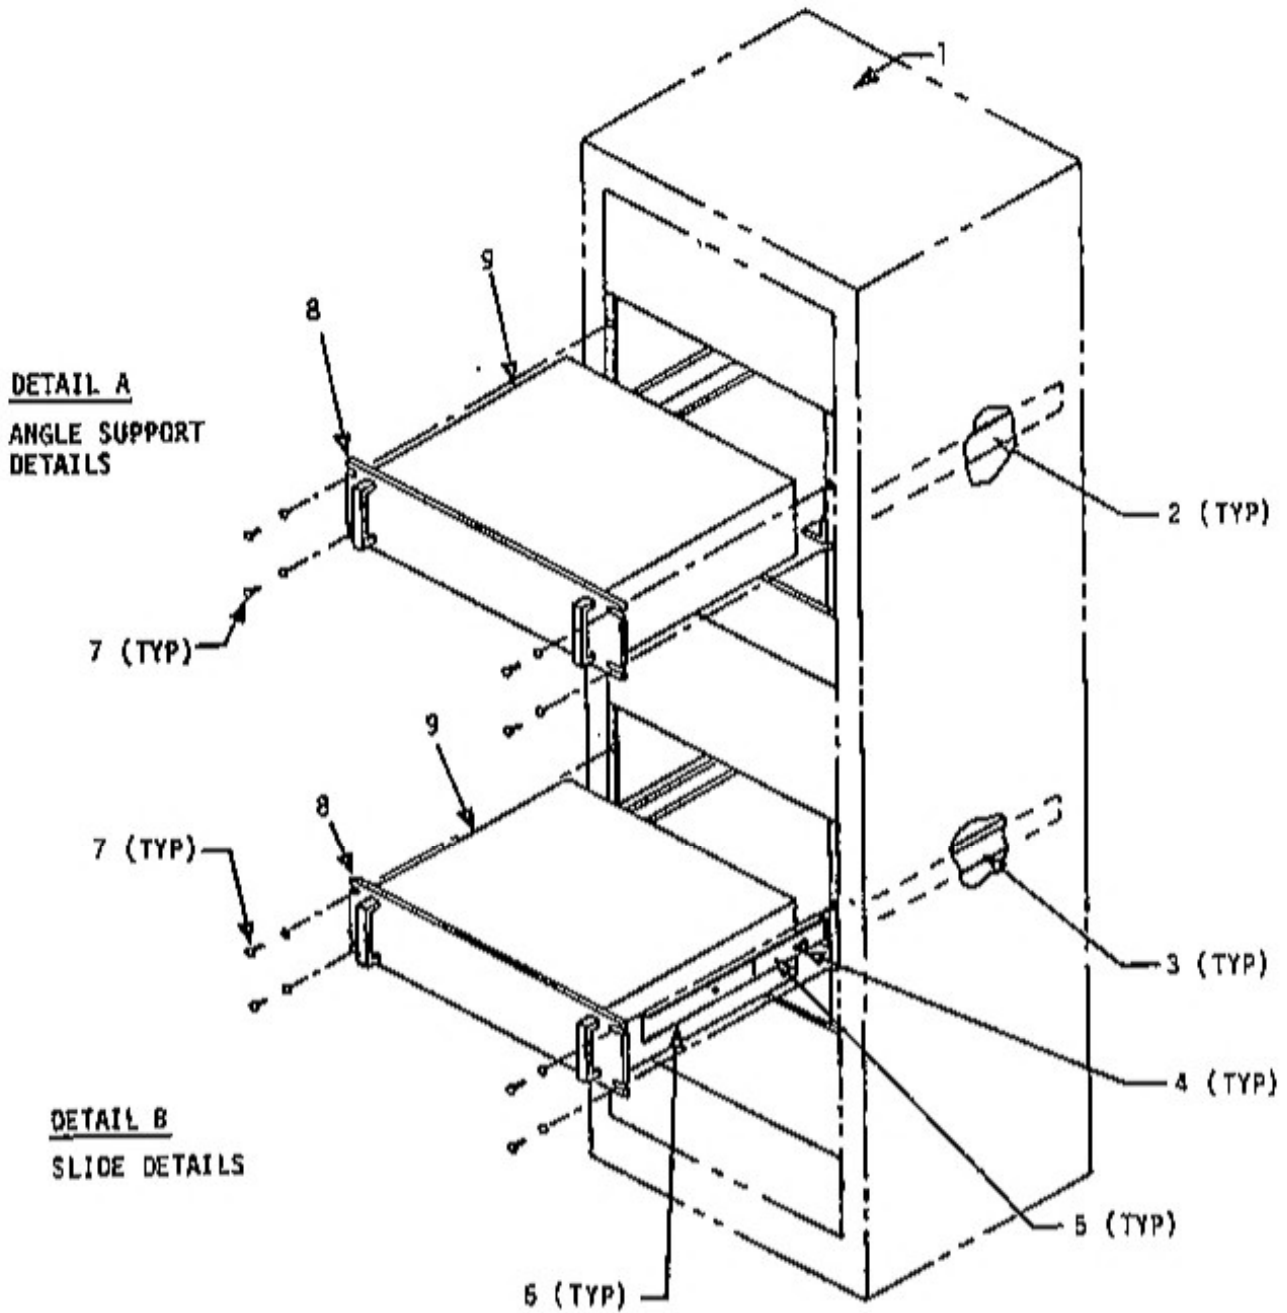

Figure 2-3. Equipment Rack Installation Options
2-12. **Angle Support Installation** - Ensure that angle supports are installed in the equipment rack before proceeding. (See Detail A, Figure 2-3).
1. Open rear door of equipment rack (1, Figure 2-3) and ensure that cables will not interfere with Receiver installation.
1. Attach chassis section slide (6, Figure 2-3) to Receiver and ensure that stationary sections (3) of rack slide are installed in equipment rack (See Detail B, Figure 2-3.)